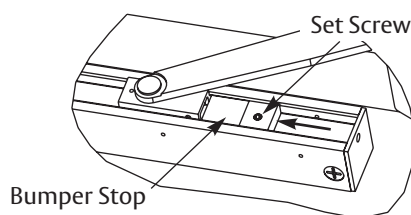

Figure 23
- Tighten set screw in bumper stop so bumper will stay in position. (Figure 23)